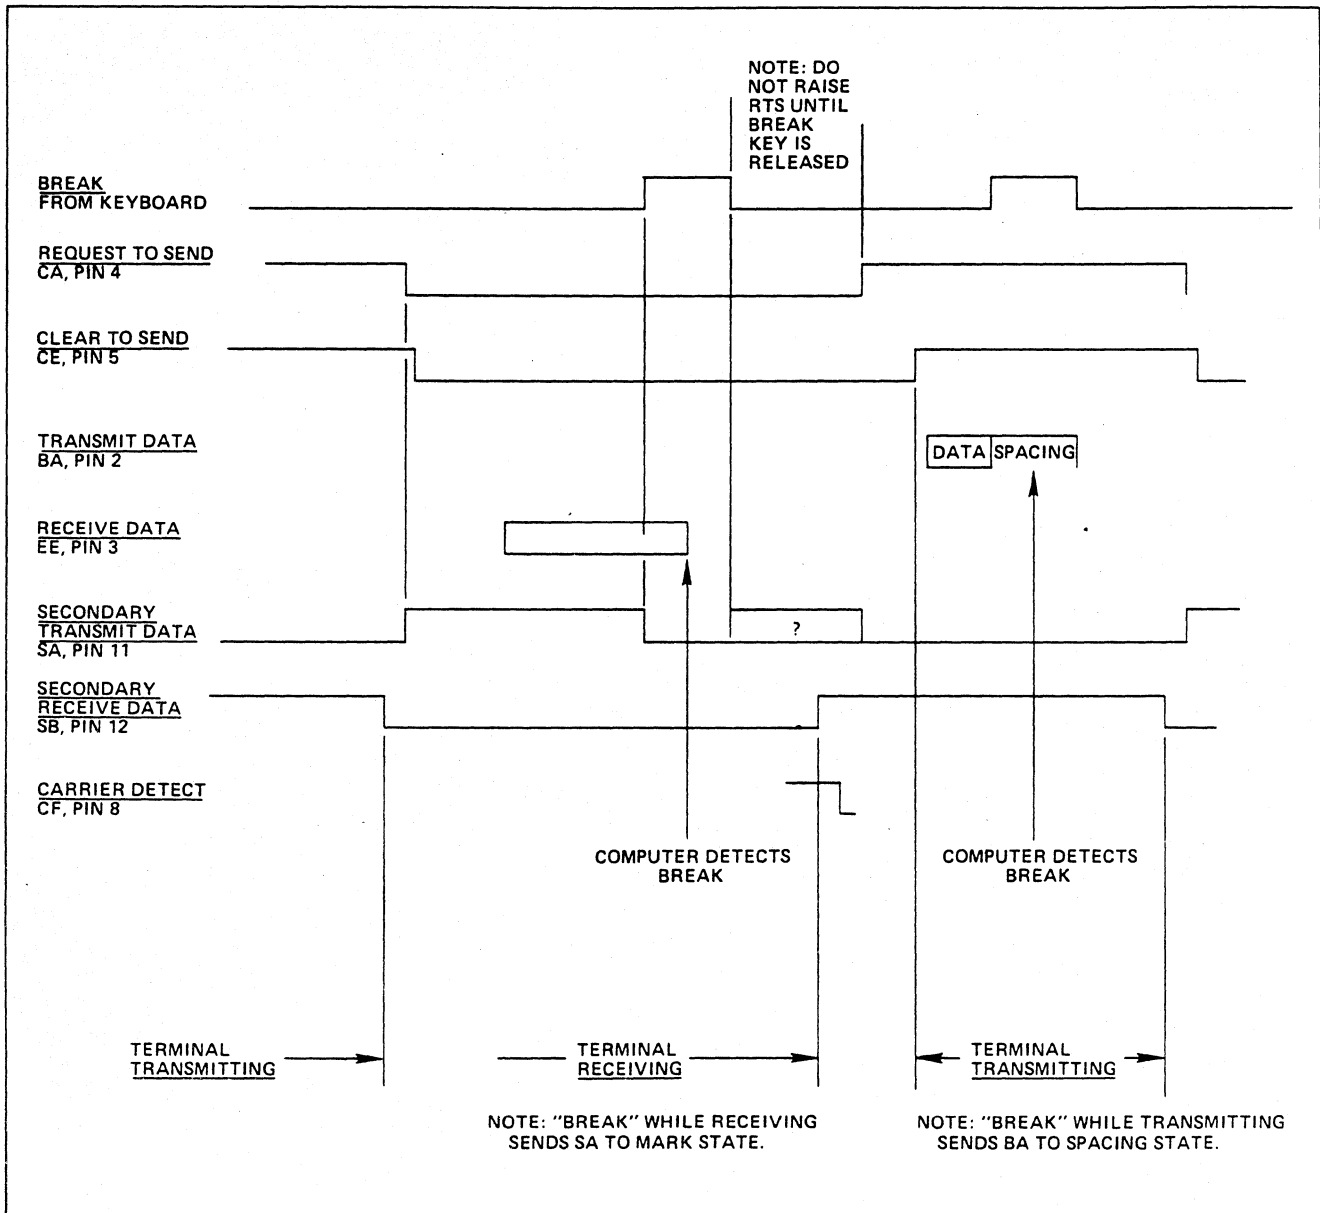

Figure 4-17. Interface Timing for Reverse-Channel Operation
In reverse-channel operation RTS is controlled by SEC RECV DATA (SB) and CARRIER DETECT (CF) from the modem. When SB goes low, RTS is unconditionally reset (figure 4-17), switching the interface to receive data. In normal reverse-channel receive operation, CF is high at this time, causing SEC XMIT DATA to rise.